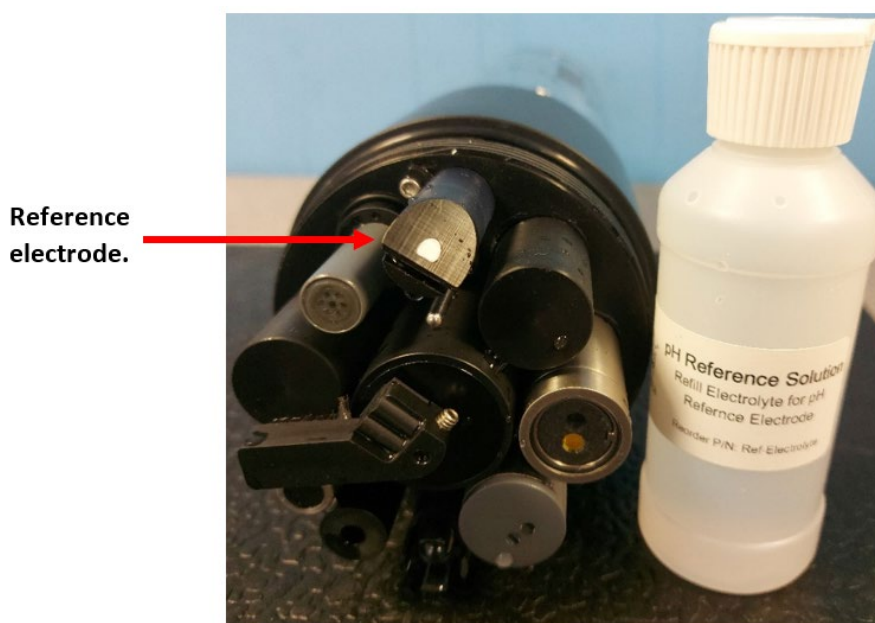

Figure 19: Reference electrode and pH electrolyte solution (provided in maintenance kit).
1. Remove the reference cap, also known as the Teflon junction, by unscrewing it from the reference sleeve and discard the old reference electrolyte fluid (Figure 19).